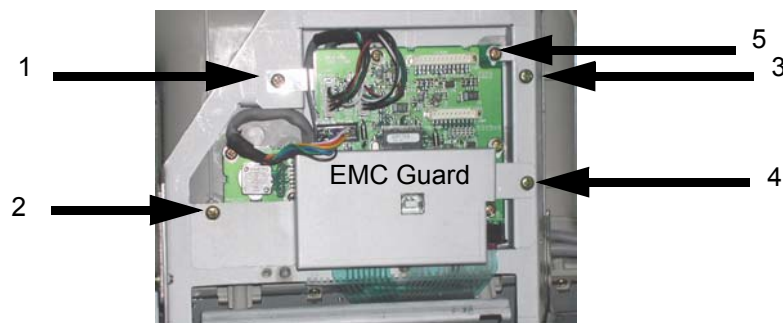

Figure 8-33 Removing HUB EMC guard
- 1.) Unscrew five (5) screws and remove the HUB Assy EMC guard. Refer to section Figure 8-33 on page 24.